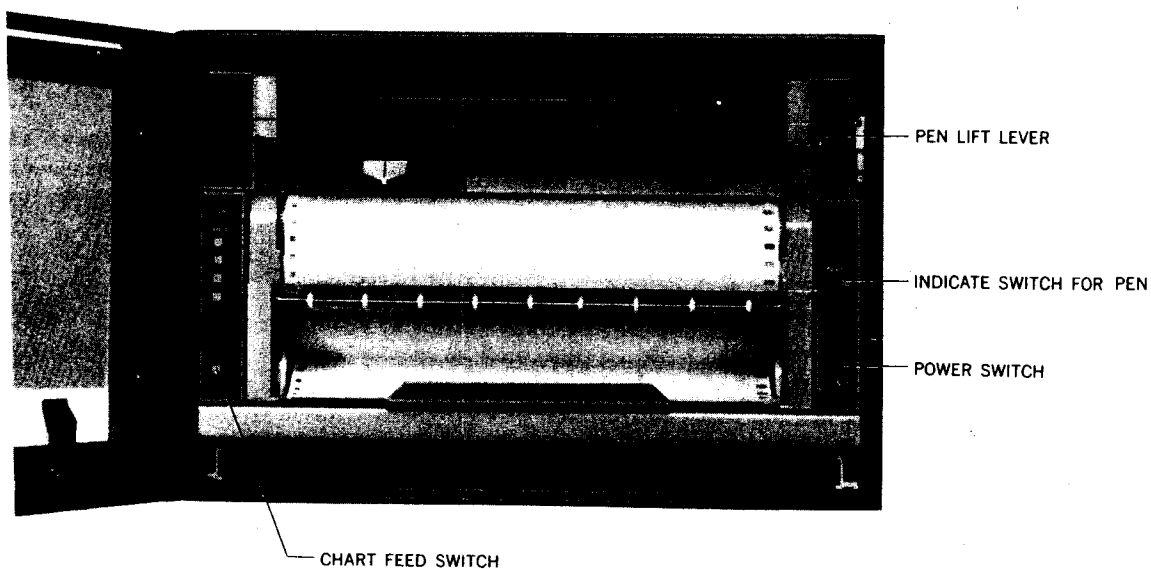

Figure 3-2. Front Panel Controls for the RD250 Continuous Recorders
3.2 OPERATING PROCEDURE FOR RD250 CONTINUOUS RECORDERS (see Figure 3-2).